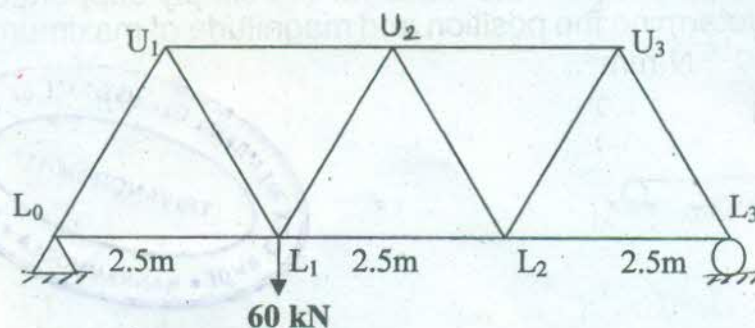

Fig. 3
9. The members of the Warren girder, shown in Fig. 3 are so proportioned that the compression members are stressed to 100 N/mm^2 and tension members to 120 N/mm^2 , when a vertical load of 60 kN is applied at L_1 . Find the vertical displacement of joint L_1 by virtual work method. Take $E = 200 \text{ GPa}$.